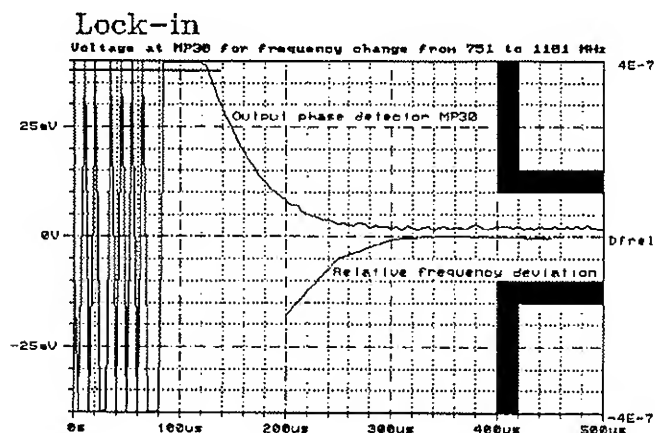

Fig. 2
- 300 to 400 us after the module strobe the voltage change at the output of the phase detector must not exceed 10 mV. A voltage curve as shown in Fig. 2 is obtained.